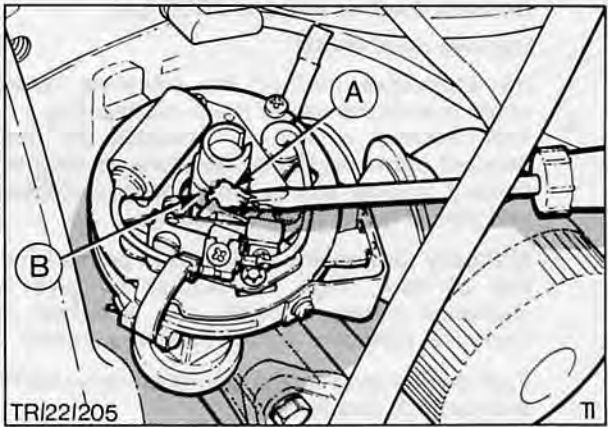

Fig. 16. Lubricating distributor cam
- (b) distributor cam with high melting point grease, Spec. ESF-M1C66-A, Fig. 16.